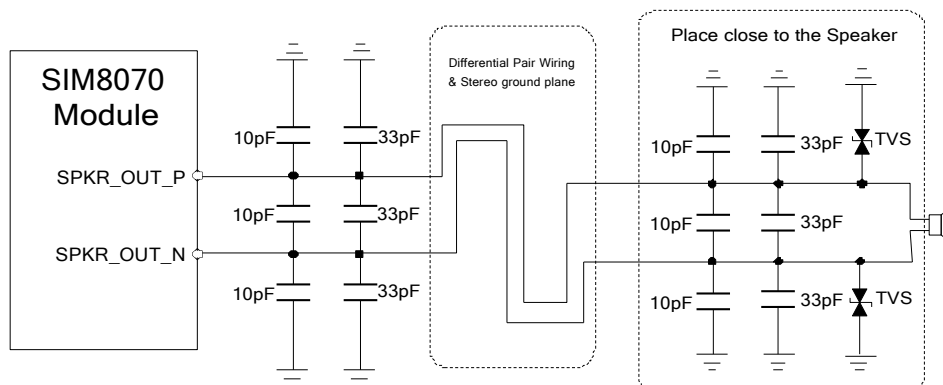

Figure 28: Speaker Reference Design
SIM8070x series module integrates a Class-D Type audio power amplifier (PA) internally. The PA integrates an internal SPKR_BOOST (Maximum Output Voltage 5.5V) circuit. The audio PA feature is listing in Table 20, and the reference design for the speaker interface is showing in the Figure 28.